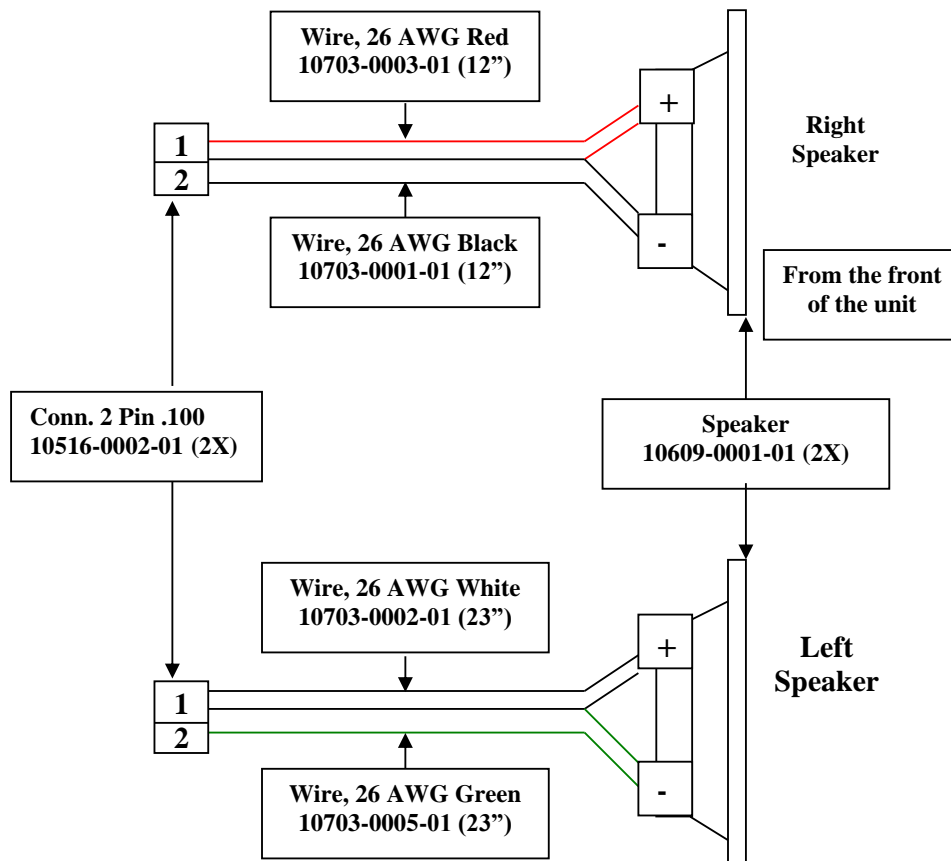

Figure 7
- 6.2. Solder the Red Wire to the (+) of a Speaker (10609-0001-01), see Figure 7.
- 6.8. Solder the White Wire to the (+) of another Speaker (10609-0001-01), see Figure 7.